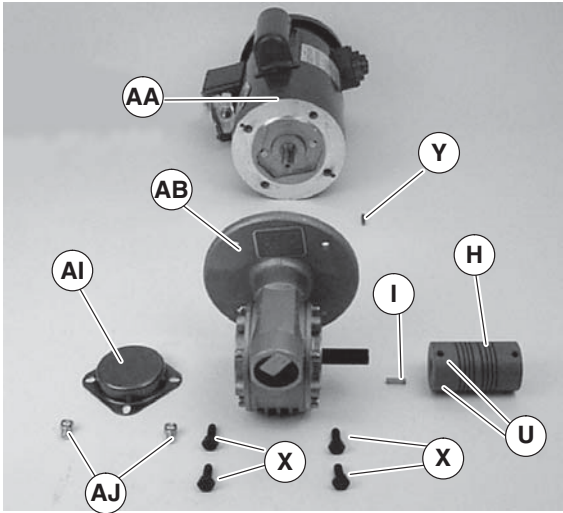

Figure 26
- Remove four screws (Figure 26, item X). Detach motor (AA) from gear reducer (AB). Retain shaft key (Y).
- With key (Figure 26, item Y) in keyway, slide motor (AA) and gear reducer (AB) together. Install screws (X) and tighten.
- Attach coupling (Figure 26, item H) to gear reducer shaft. Tighten two set screws (U) to 32 in-lb (4.7 Nm).